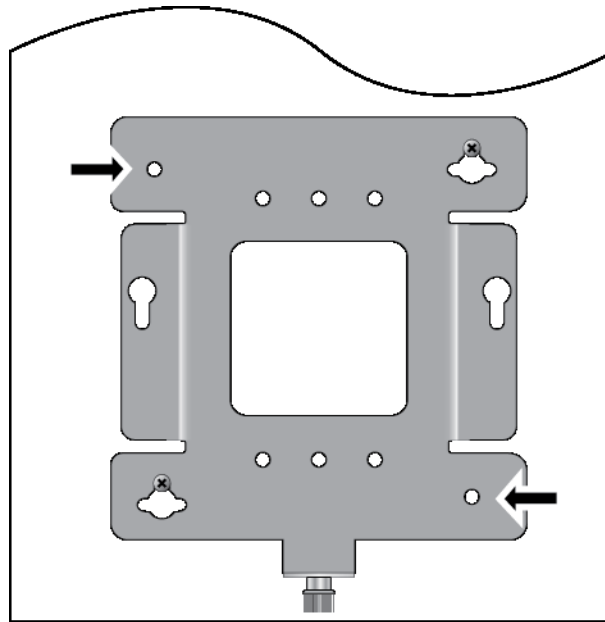

Figure 24. Pre-Drill Holes on Wall Mounting Bracket
8. To secure the mounting bracket, pre-drill holes through the two bracket mounting holes opposite the key-hole slots. Refer to Figure 24.